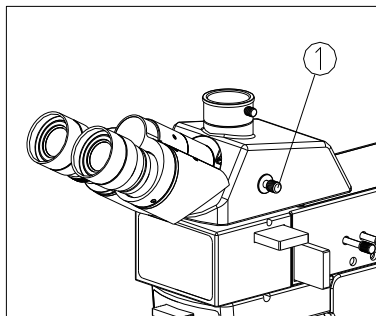

Fig.20
For trinocular head, the light path selecting pole ① controls the light-energy ratio of binocular and trinocular. When the light path selecting pole ① is pushed to the innermost, all the light will enter the binocular head. When it is pulled to the outmost, binocular and trinocular can be observed simultaneously. Usually, push the light path selecting pole to the innermost for binocular observation, while pull it to the outmost for trinocular observation (TV&Photography). (See Fig. 20)